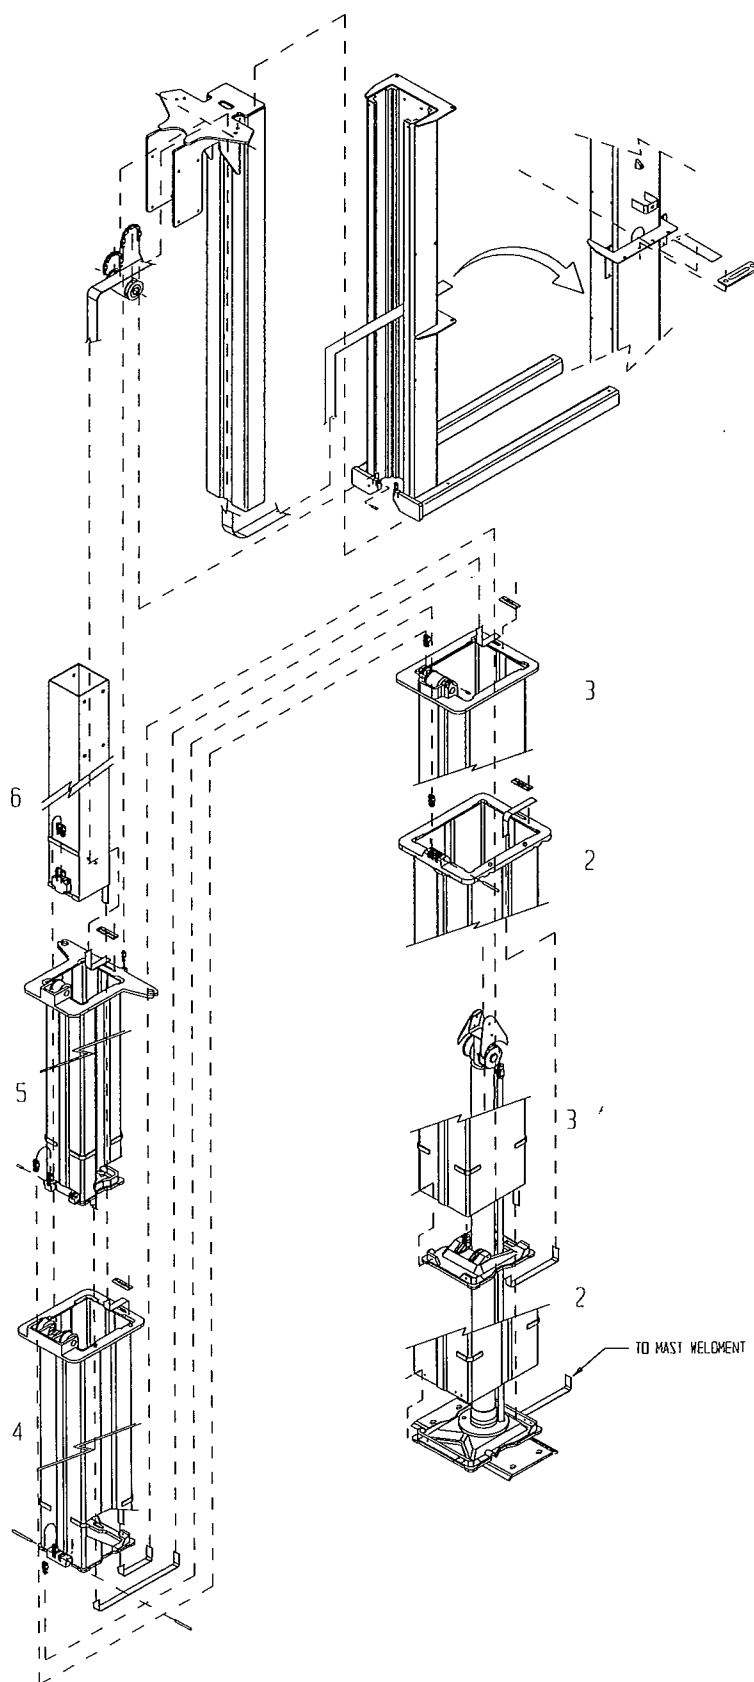

Figure 4-6: Mast Assembly, Strap and Chain Detail
4.5 Mast Assembly (Figure 4-6,7)
Platform Assembly Removal (Figure 4-6)